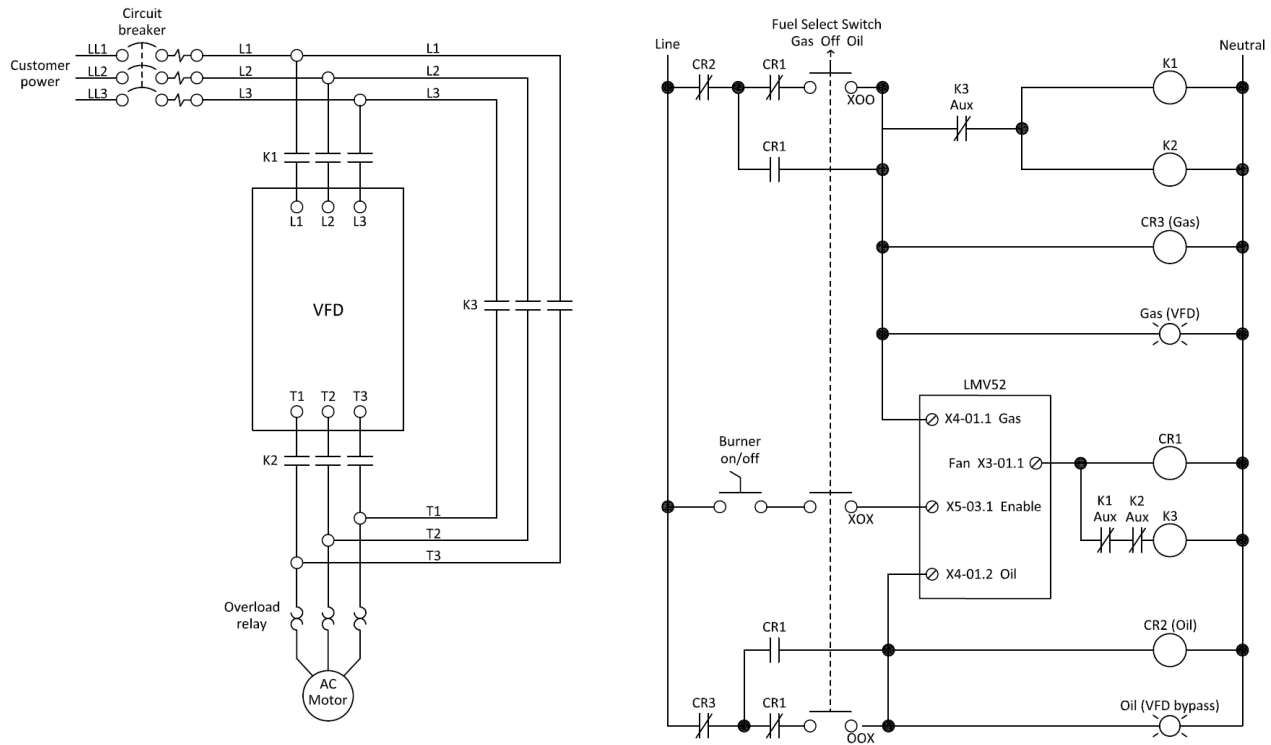

Figure 15: Wiring for a Dual Fuel VFD Bypass
1. Wire the LMV52, VFD, and motor contactors as shown in Figure 15.